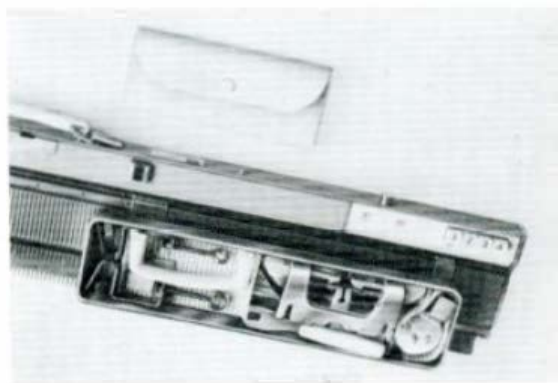
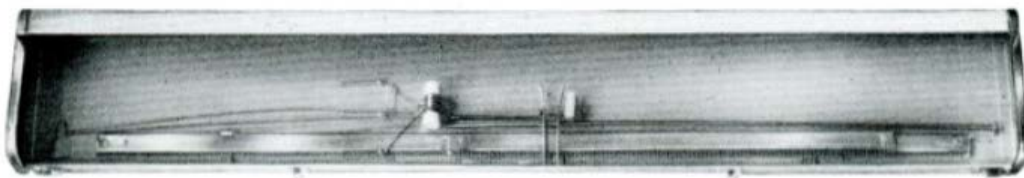

Fig. 107
Fig. 108
- b) Remove the row counter and replace in the accessory box as shown in Fig. 107.
- c) Remove the sinker plate and replace in the accessory box as shown in Fig. 107.
- i) Replace the accessory box on the right of the knitter. The right foot must be placed on the ungrooved part and the left foot placed between two rivets on the back of the needle groove. (See Fig. 107) Then the butts of the needles will fit into the holes of the left foot of the accessory box. (See Fig. 108)